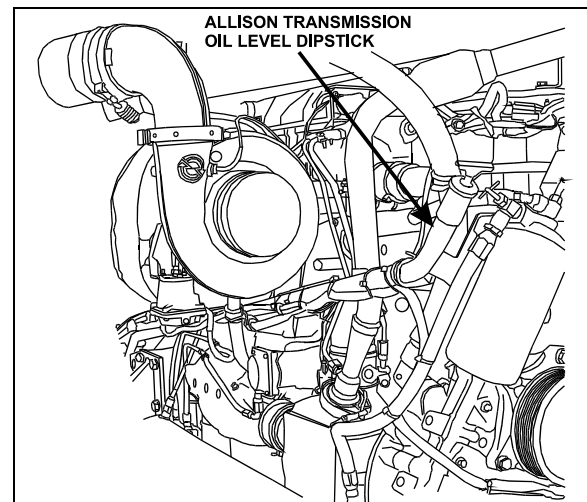

FIGURE 4: OIL LEVEL DIPSTICK (AUTO. TRANS.) 07033
To gain access to the dipstick, open the engine compartment rear doors ; dipstick is located on the radiator side of the engine (Fig. 4).
2. Run the engine for at least one minute. Shift to Drive (D) and operate the engine for 30 seconds at 1000-1500 rpm; then shift to Reverse (R) to clear the hydraulic system of air. Finally shift to Neutral (N) and allow the engine to idle (500 - 800 rpm).
3. While the engine is running, remove the dipstick from the tube and wipe it clean (Figs. 4 & 5).
4. Insert the dipstick into the tube and then remove, checking the oil level reading (Fig. 4). Repeat the check procedure to verify the reading. If the oil reading is within the "Cold Run" band, the level is satisfactory for operating the transmission until the oil is hot enough to perform a "Hot Run" check. If the oil reading is not within the "Cold Run" band, add or drain oil as necessary to bring the level within the "Cold Run" band.